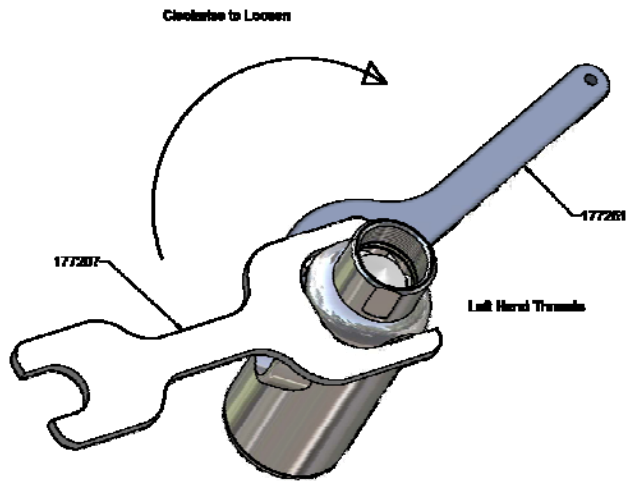

Figure 9
2. Remove position 1 by rotating clockwise while holding inlet ring; position 12.4 using spanner wrenches as shown in Figure 9 and Figure 27. Also see Figure 9.